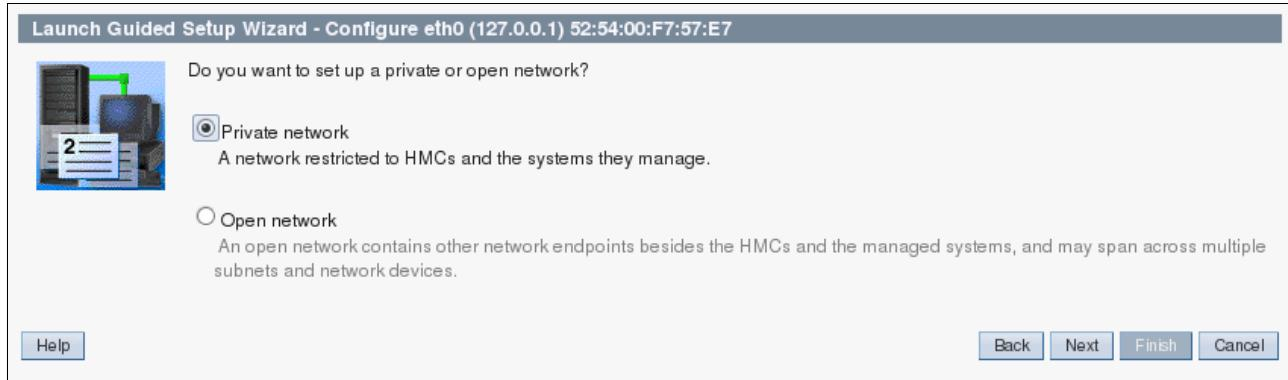

Figure 3-89 Set network to private for eth0
18. Select **Private network** for eth0 (Figure 3-89), and then click **Next**.